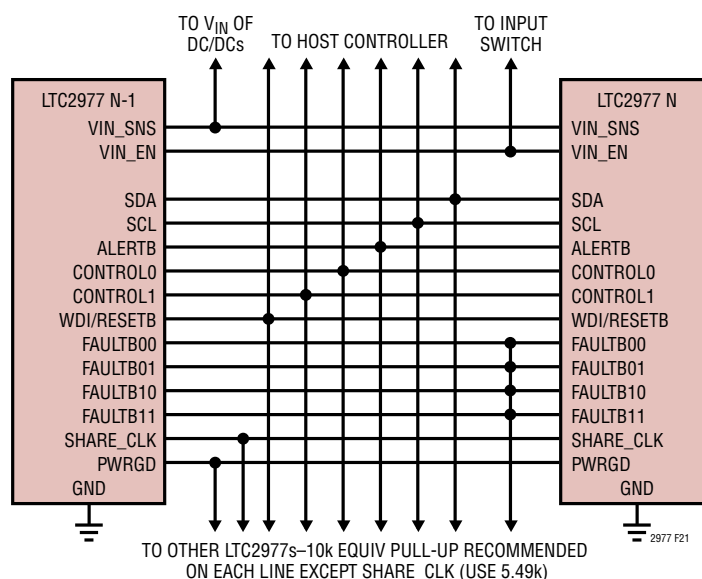

Figure 21. Typical Connections Between Multiple LTC2977s
Figure 21 shows how to interconnect the pins in a typical multi-LTC2977 array.
- The FAULTB $_zn$ lines can be connected together to create fault dependencies. Figure 21 shows a configuration where a fault on any FAULTB $_zn$ will pull all others low. This is useful for arrays where it is desired to abort a start-up sequence in the event any channel does not come up (see Figure 22).
- PWRGD reflects the status of the outputs that are mapped to it by the MFR_PWRGD_EN command. Figure 21 shows all the PWRGD pins connected together, but any combination may be used.